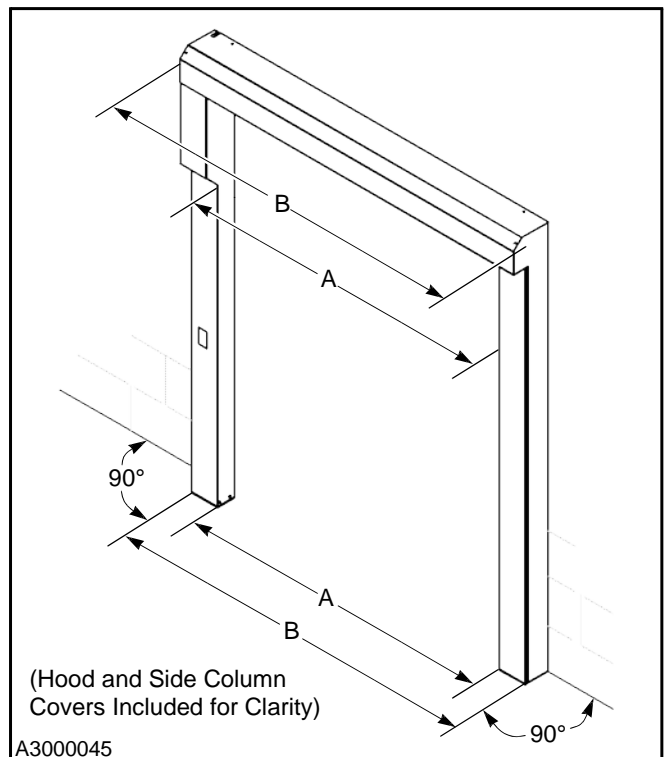

Figure 17
1. With the spreader attached to the side columns, verify the side columns are level with each other, plumb and square with the wall, and parallel. Reposition the bar clamps as necessary. (See Figure 17.)
IMPORTANT: The side columns must be installed as detailed to ensure the door operates properly. (See Figure 17.)
2. The inside distance between the side columns (A—production width) at their bottom end, must be the same distance between the side columns at the spreader end of the columns. Also make sure the outside edges (B—hood width) are parallel along the entire length of each column. (See Figure 17.)